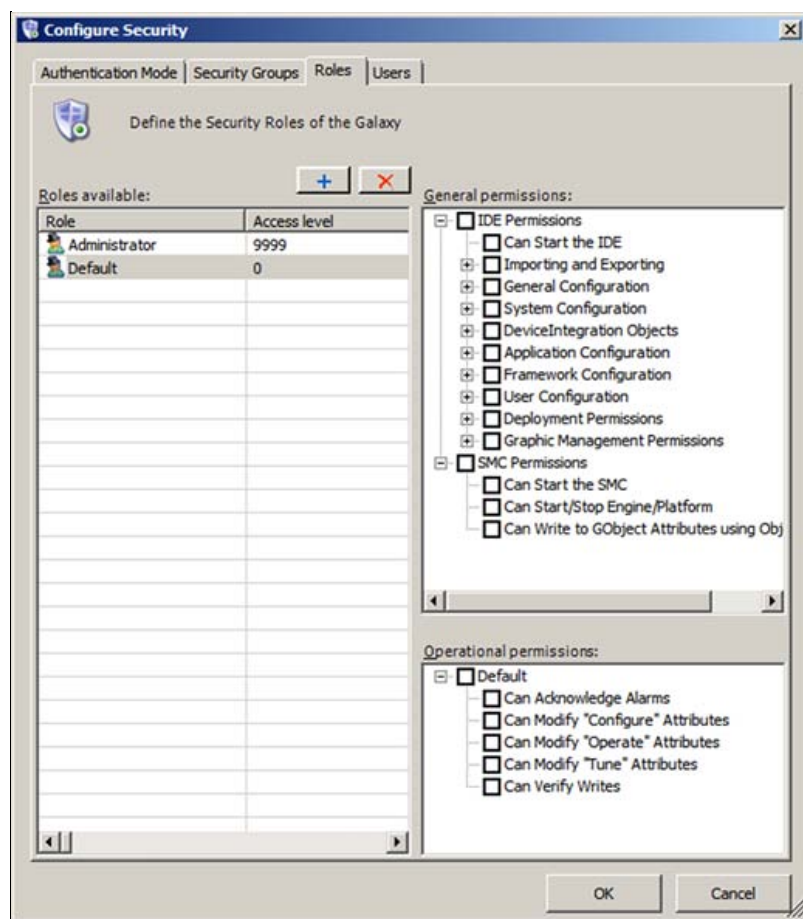

FIGURE 2: UNCHECK ALL DEFAULT SECURITY OPTIONS
12. Click **Default** and uncheck all options (Figure 2 below).